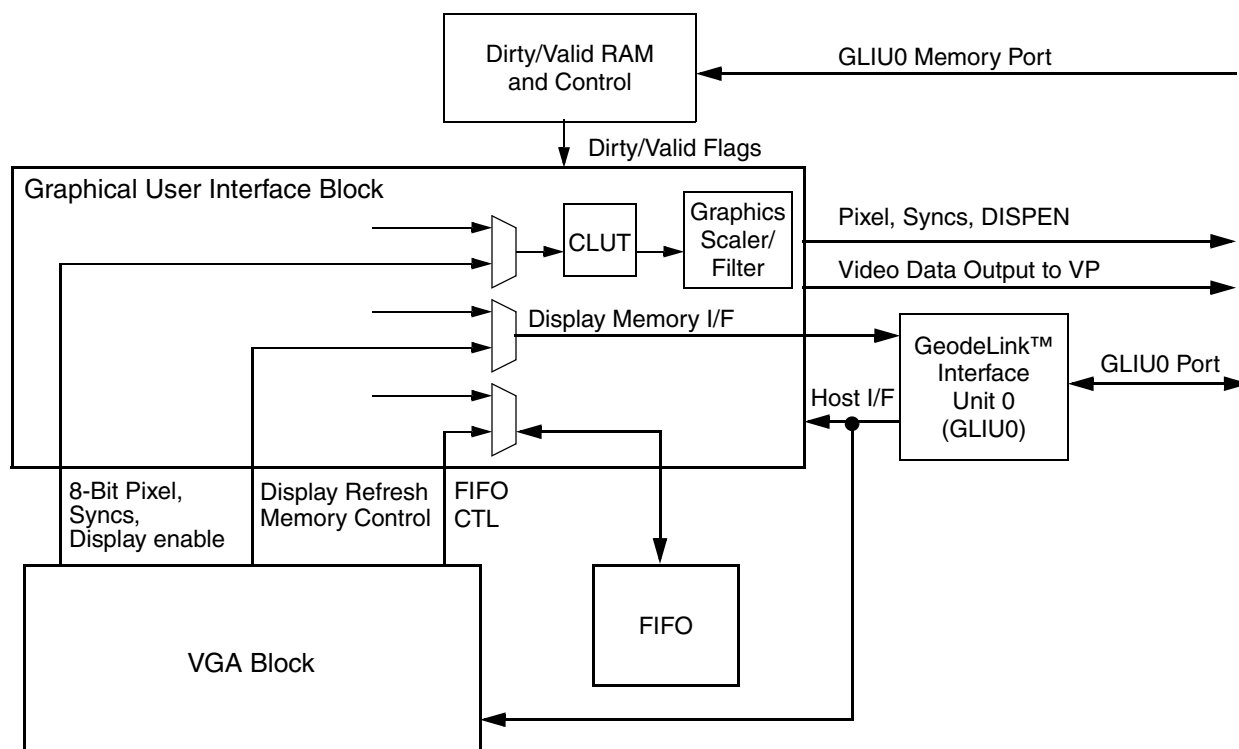

Figure 6-12. Display Controller High-Level Block Diagram
The DC module consists of a GUI (Graphical User Interface) block, a VGA block, and back-end scaling/filter. The GUI is compatible with the Display Controller found in the GX processor. The VGA block provides hardware compatibility with the VGA graphics standard. The GUI and VGA blocks share a single display FIFO and display refresh memory interface to the memory controller. The VGA block passes 8-bpp and syncs to the GUI, which expands the pixels to 24-bpp via the CLUT (color lookup table). The VGA block also passes the information to the graphics filter for scaling and interlaced display support. This stream is then passed to the Video Processor (VP), which is used for video overlay. The VP forwards this information to the DAC (Digital-to-Analog Converter), which generates the analog red, green, and blue signals and buffers the sync signals, that are then sent to the display. The VP output can also be rendered as YUV data that can be output on the Video Output Port. The DC block diagram is shown in Figure 6-12.